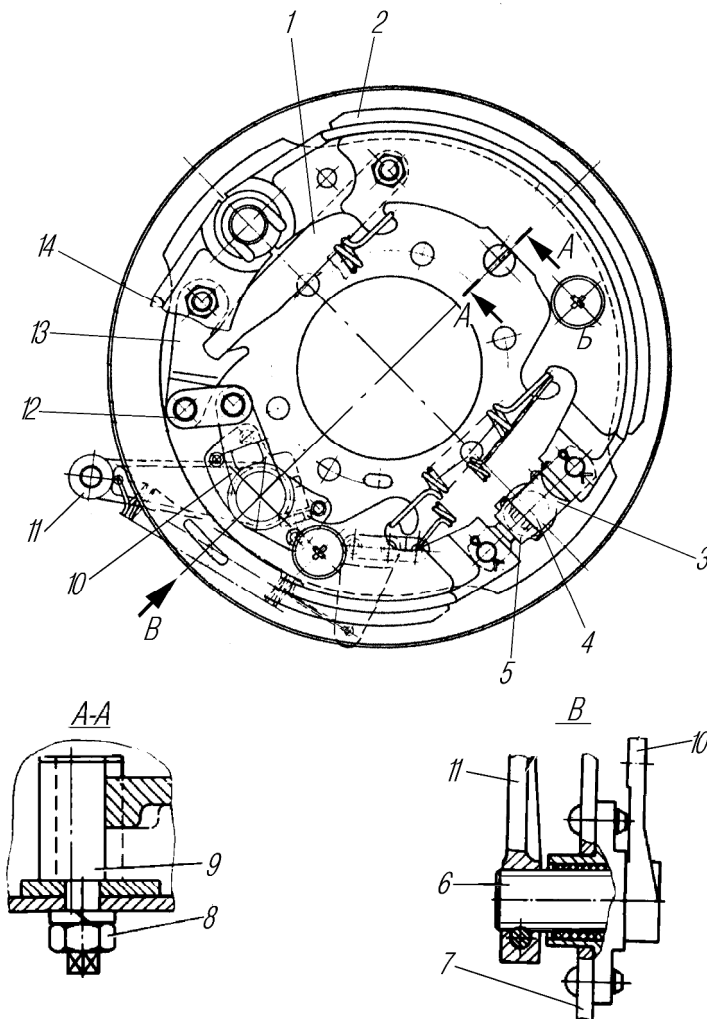

Fig. 83. Parking Brake:
When braking, the effort is transferred from adjusting lever 11 (Fig. 83) through lever 10, shackle 12 to expansion lever 13.
3. Adjust the clearance between the r.h. shoe and drum. For this purpose slack off lock nut 8 (see Fig. 83) on eccentric pin 9 on the side of shield by half a turn, and turning the pin by a wrench clockwise, set a clearance of 0.3 - 0.5 mm. Check the clearance with the help of checking probe through the slit in the brake baffle. Tighten the lock nut, preventing the pin turning.